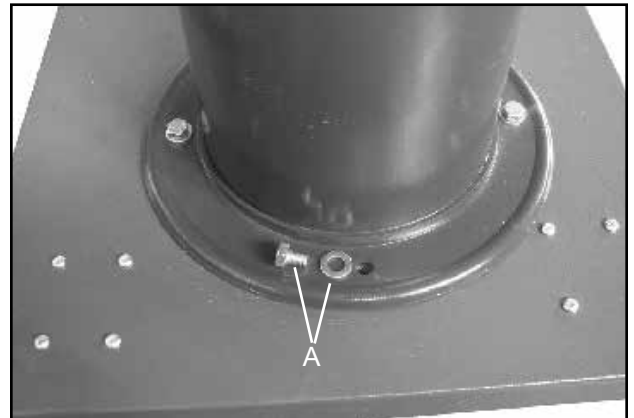

Fig. 02
2. Place a washer over a hex bolt and insert through the column into the the threaded hole in the base (A-Fig. 02).